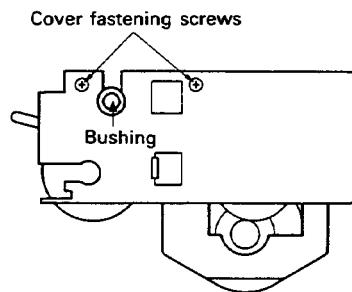

Fig. 2-6
5. Remove four cover fastening screws from the upper part of the printer assembly. (Fig. 2-6)